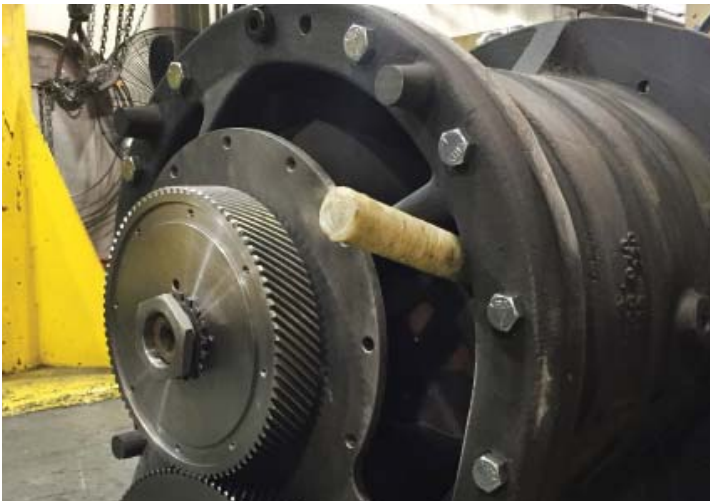

Figure 11-1 Proper Method for Blocking Rotors
1. Place measuring unit in wooden cradle as illustrated in Figure 11-1. Orient measuring unit with front end cover (item 4) upward.
4. Block rotors with a plastic or wooden rod as illustrated in Figure 11-1.
5. Separate bearing retainer (item 7) from end of rotor shafts by removing screws (item 8).
6. Remove ball bearings (item 6), seal retainer (item 62) and crane seals (item 57).